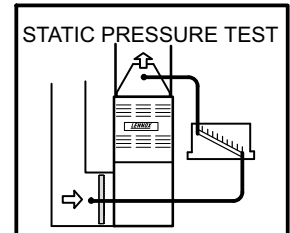

FIGURE 32
- 1 - Tap locations shown in figure 32.